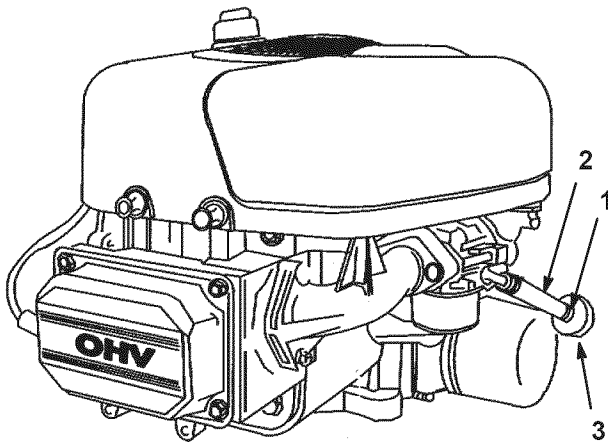

Figure 35
- Loosen the hose clamp at the fuel filter and slide it up the fuel line away from the fuel filter (Fig. 35).
- Pull the fuel line off of the fuel filter (Fig. 35).
- Install the fuel line onto the fuel filter. Slide the hose clamp close to the fuel filter to secure the fuel line (Fig. 35).
- Squeeze the ends of the hose clamps together and slide them away from the filter (Fig. 35).
- Install a new filter and move the hose clamps close to the filter (Fig. 35).